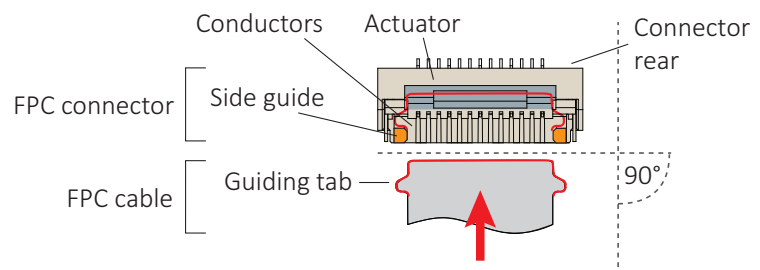
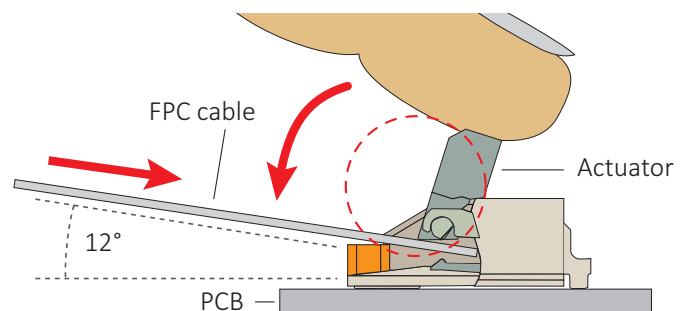

Figure 83: FPC cable and FPC connector
Figure 84: Engaging the FPC cable in the FPC connector
2. **Ensuring proper cable direction between host and camera**, take the FPC cable with conductors facing the FPC connector conductors (see Figure 83).
At a horizontal angle of 90 degrees to the connector's rear (see Figure 83) and at a vertical angle of 12 degrees to the PCB (see Figure 84), slowly insert the FPC cable into the actuator...
4. ...until cable guiding tabs are caught between connector rear and side guides (see Figure 83). Pull the cable slightly to ensure guiding tabs are properly engaged.
5. Holding the FPC cable in position, flap down the actuator to closed position (see Figure 84).